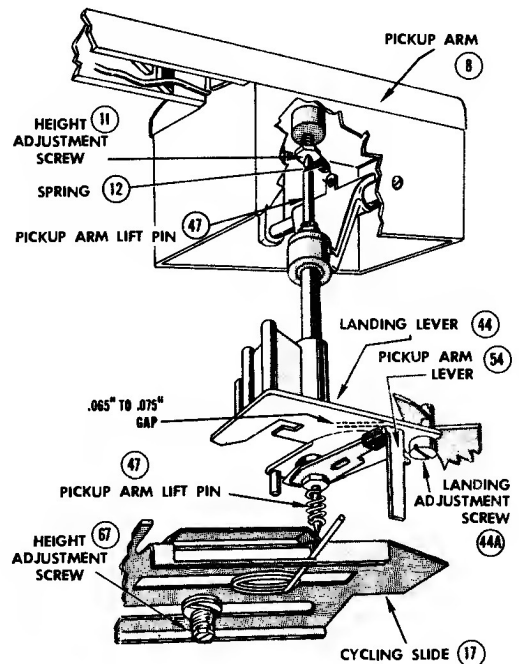

Figure 6—Adjustments
*Continuous trip may be caused by failure of the clutch lever (56) to re-set. Check for oil or loose assembly. If stylus skips grooves or fails to become free at the time of "touchdown" check action of index lever (112) and check for proper clearance between landing lever (44) and pickup arm lever (54). See Figure 6.*